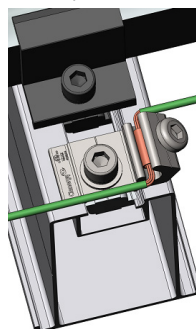

Fig.32
5.3.3 Apply one pre-assembled Grounding Lug per T Rail. Click the Grounding Lug into the channel of the T Rail and insert the Copper Wire. (the maximum size is 6AWG or similar) Then fasten the bolt M6*10 with 10N·m and fasten the bolt M8*25 with 13.5N·m as shown in the Fig.32.